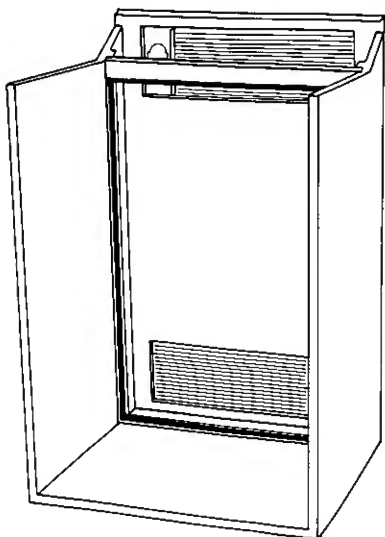

Fig. 4
Battens must be installed at the enclosure and fitted with sealing strips, as shown in fig. 4.
- G. Wooden batten approx. 10 x 20 mm (see fig. 4)